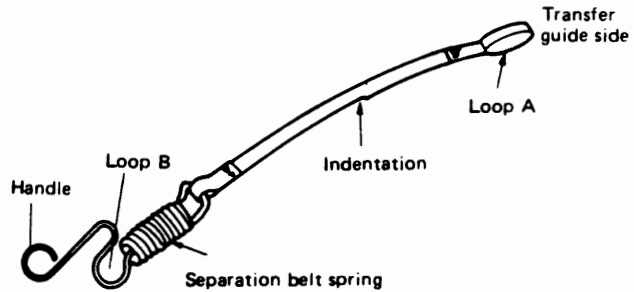

FIGURE 13
3. With a screwdriver, open loop A on the separation belt (Figure 13).